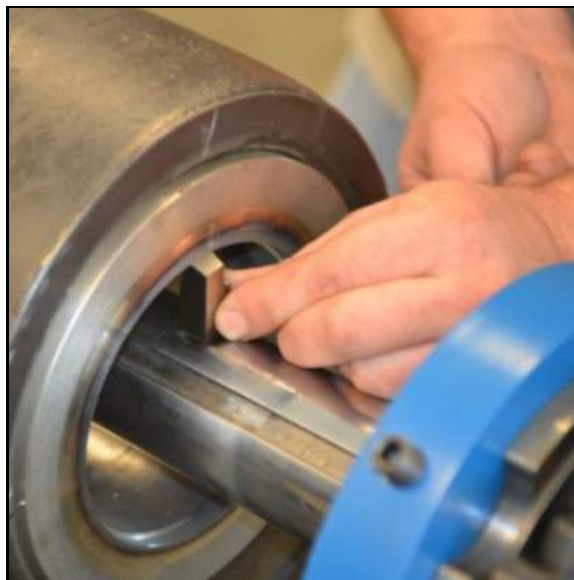

FIGURE 3-7. INSERTING THE TOOL BIT
2. Insert the tool bit into the tool slot so that it slides freely into the broached hole (see Figure 3-7).